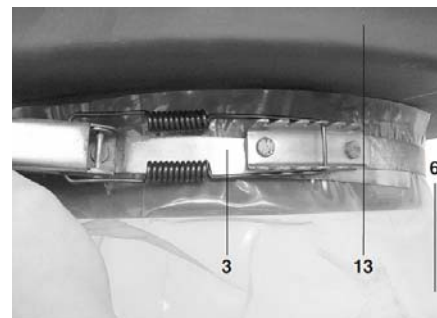

Fig. 8: Quick release device catch bag
Step 6: Pull the chip bag (6) over the lower opening of the plastic housing (13) so that it completely closes the opening and secure it with the quick release device (3) Fig. 8.